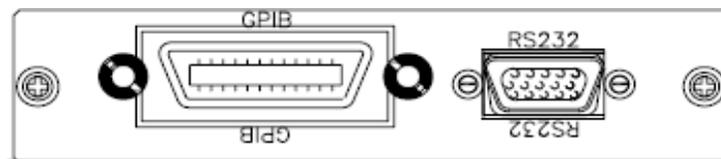

Fig 2-2 34000E Series GPIB & RS232 interface
- 2.9.4. Fig 2-2 shows the RS232 interface (Female) on the rear panel Connects 34000E Series Mainframe to RS232 port of computer in one By one Configuration .The RS232 BAUD-RATE can be set in the front Panel, it Will be lit the GPIB Address when press the "SYSTEM" button. Press it again, it will be lit the BAUD-RATE.